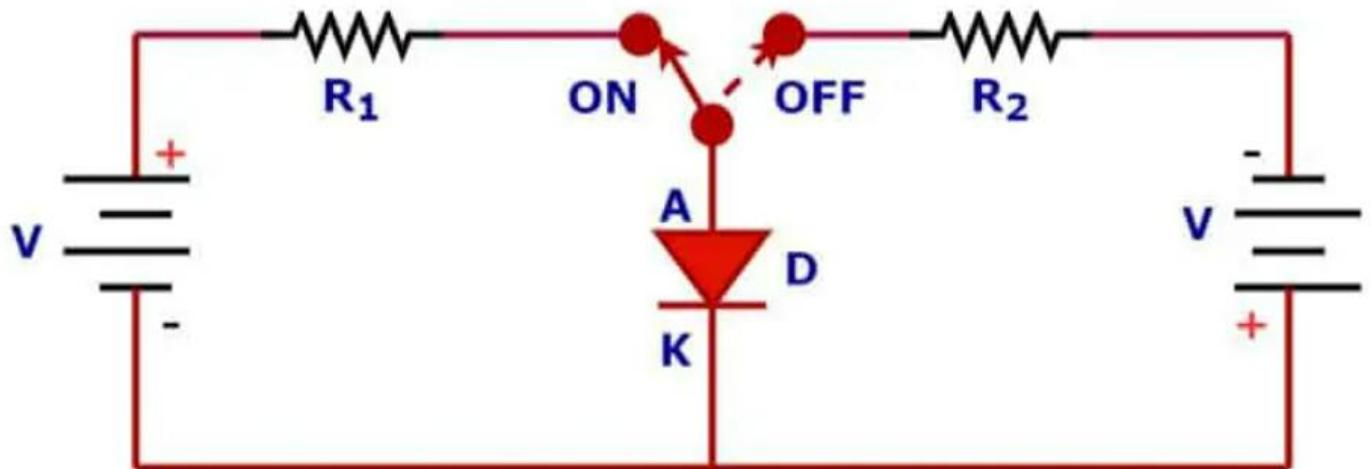

Fig. 1.18 Circuit diagram for diode act as a switch
- The figure 1.18 shows the Circuit diagram for diode act as a switch